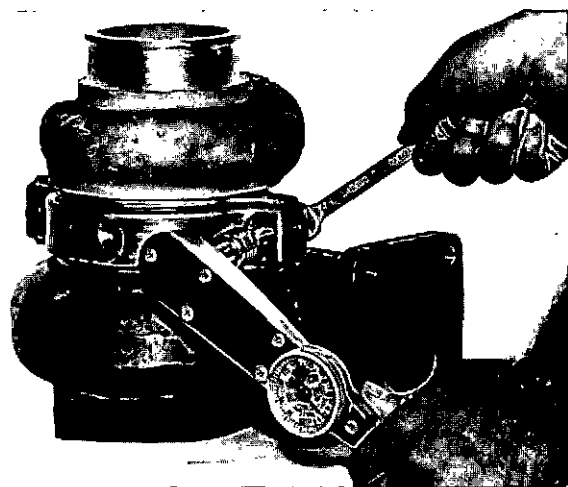

Fig. 2-13, (T3521). Torquing the V-band clamp
15. Position the V-bands around the housings, centering the openings of the V-bands over the oil supply and drain ports. Secure with new bolts, flat washers and lock nuts. Torque the nuts to values listed in Specifications, Fig. 2-13. Check the clearance between the turbine housing and the V-band clamp. There must be a minimum of 0.035 inch [0.89 mm].